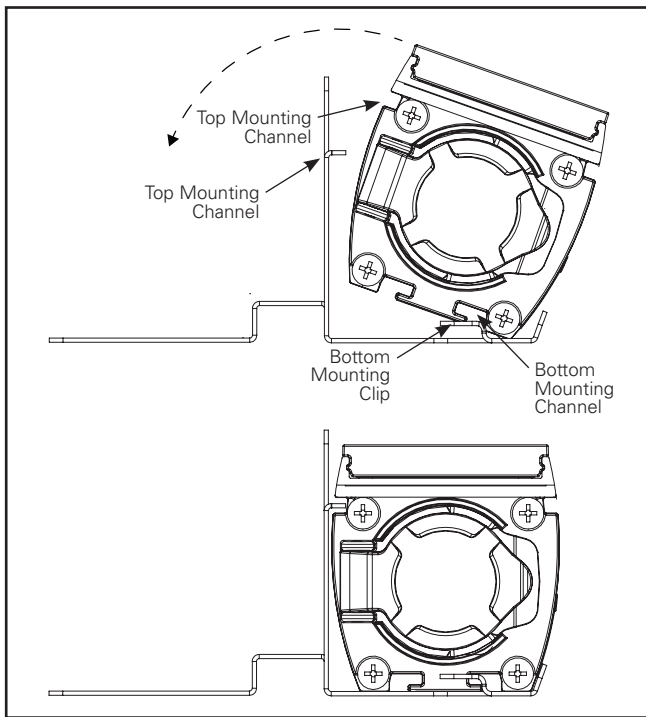

Figure 13.1
11. Install fixture into mounting by making sure mounting channel in the bottom of the fixture engages with the mounting clip. Fixture can then be rotated into place making sure the top clip engages in the upper mounting channel to secure fixture in any orientation (as shown in Figures 13.1 and 13.2). Ensure each fixture is secure in bracket by engaging with both mounting clips before installing the next fixture.